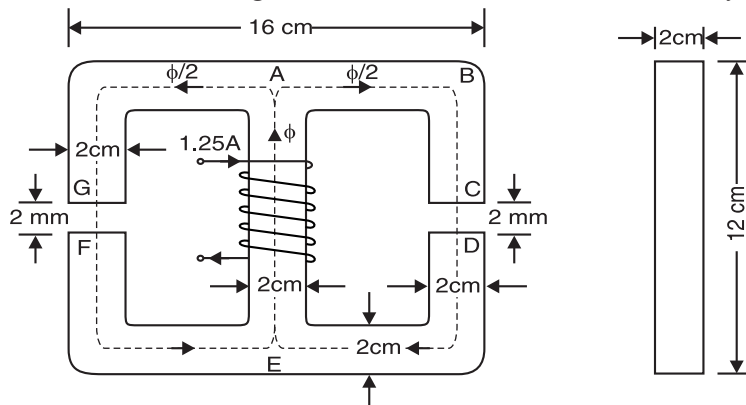

Fig. 8.14
**Example 8.10.** In the magnetic circuit shown in Fig. 8.14, find (i) the total reluctance of the magnetic circuit and (ii) value of flux linking the coil. Assume that the relative permeability of the magnetic material is 800. The exciting coil has 1000 turns and carries a current of 1.25 A.